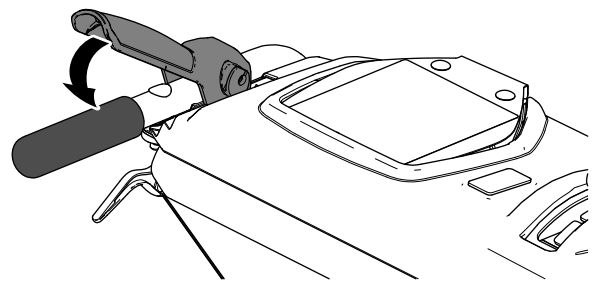

Figure 14
2. Slowly squeeze the traction-drive lever (left) to the left handle (Figure 14).